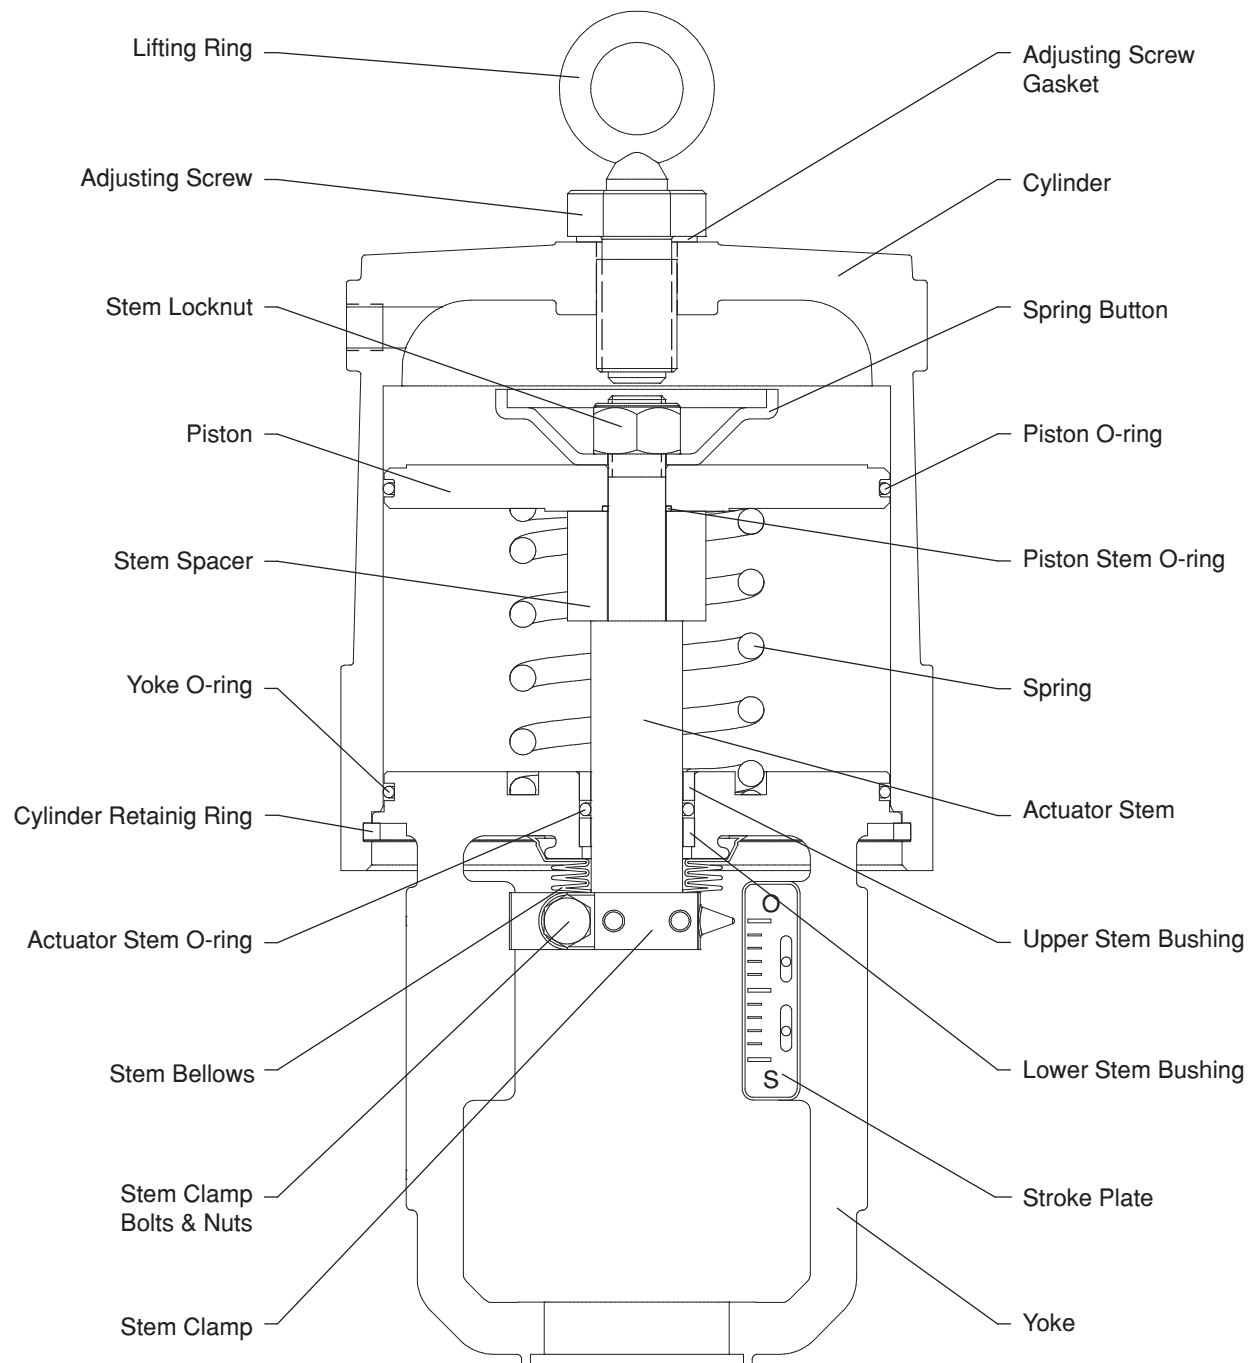

Figure 6 - Spring-Cylinder Actuator (Air-to-Close)
- In the “air-to-close” configuration (Fig. 6), slowly release and remove the actuator stem locknut, making sure that the piston follows the locknut and is not jammed on the actuator stem. Remove the stem locknut, spring button, piston, spring and stem spacer.